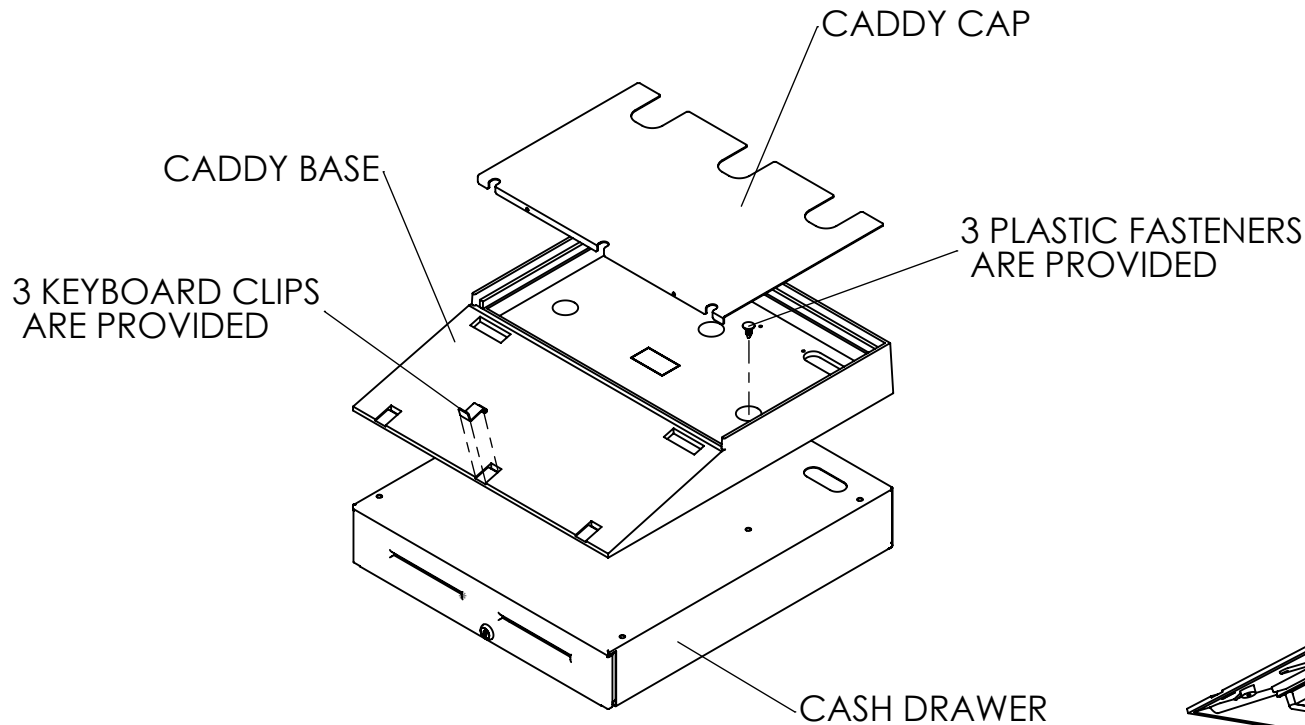

FIG. 2
6. Install the keyboard and keyboard clips, if necessary. The keyboard rests on the slopped surface of the Base with the keyboard feet resting in the recesses provided. The keyboard clips may be used if the keyboard feet do not fit into the recesses provided or the keyboard feet will not be used for the installation. Install up to 3 keyboard clips into the recesses and slots provided. The clips install by inserting the edge of the clip into the slot in the base at an angle. Slight pressure will allow the clip to "snap" into place. Push down on the back of the clip to seat it into the recess on the base. (FIG 2)